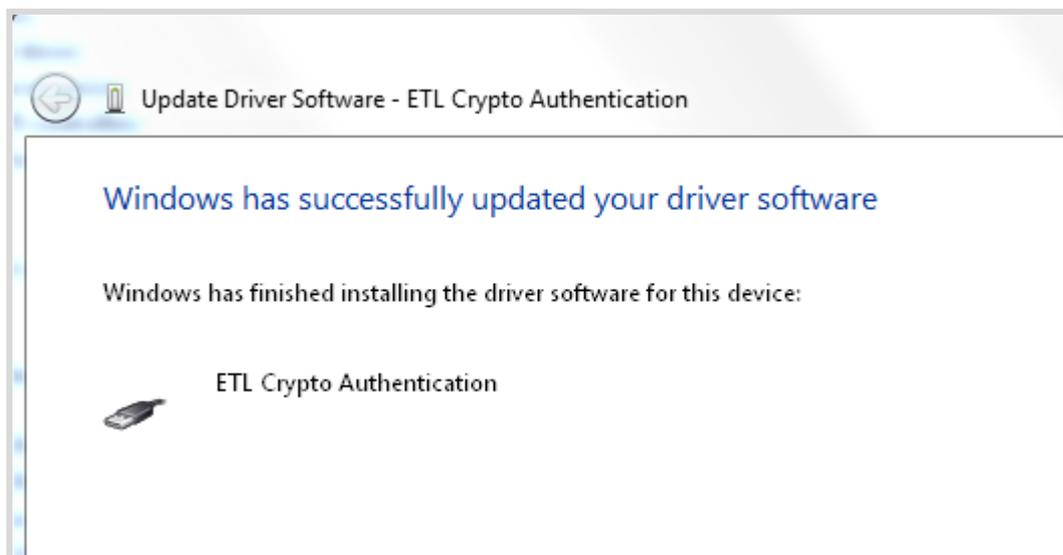

Figure 8. The successfully "Update Driver Software " screen
- Shortly the "Update Driver Software" screen will appear(Figure 8)